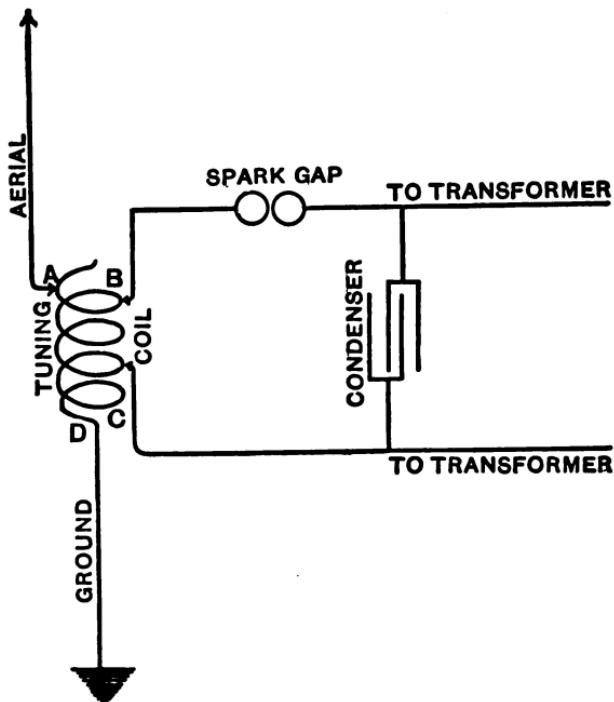
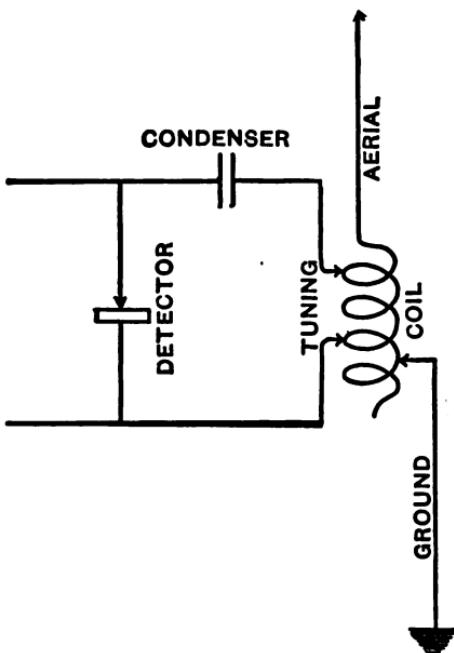

FIG. 165.—COUPLED OPEN AND CLOSED OSCILLATION CIRCUITS FOR TRANSMITTING.
FIG. 166.—COUPLED OPEN AND CLOSED OSCILLATION CIRCUITS FOR RECEPTOR.
There are different ways by which the aerial and ground wire can be coupled with a closed circuit, but the way we have chosen for the long distance set is that shown in Fig. 165 for the transmitter and Fig. 166 for the receptor. Joining the circuits together in this fashion is called a *direct*, or *conductive coupling*.
The ends of the secondary coil of the transformer are connected with the Leyden jar condenser and this condenser is charged (and discharged) every time the current changes its direction. Also every time the condenser is charged it discharges through the spark-gap and the turns of the tuning coil which are between the clips B and C, as in Fig. 165.
**Action of a Tuned Receptor.**—When the electric waves which are radiated, that is sent out by the aërial of a transmitter, strike the aërial connected with a receptor (see Fig. 166), the electric waves are changed into electric oscillations, and if the circuits of the receptor are tuned to the circuits of the transmitter the oscillations will have exactly the same frequency as those in the aërial of the transmitter which sent them out.